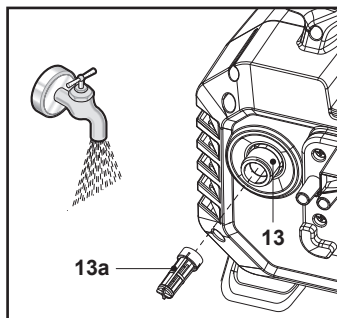

Fig. 16
2. Remove the filter screen (13a) from water inlet connector (13) and rinse under tap water to remove any foreign objects (Fig. 16). Reinstall the filter screen (13a) afterwards.